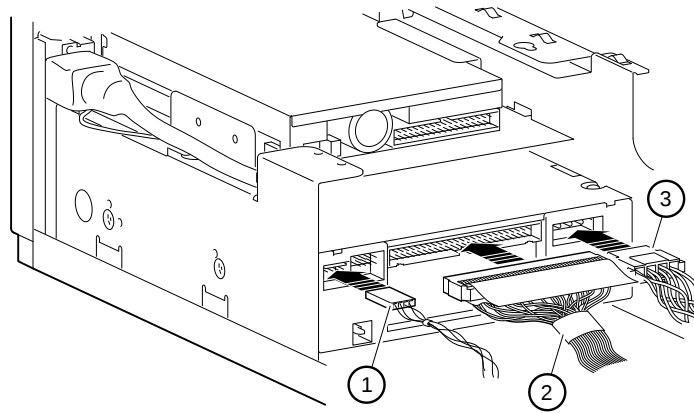

Figure 4-21 Cabling the Drive
7. Connect the audio ① (if appropriate, for CD drives), SCSI ②, and power ③ cables, as Figure 4-21 shows.